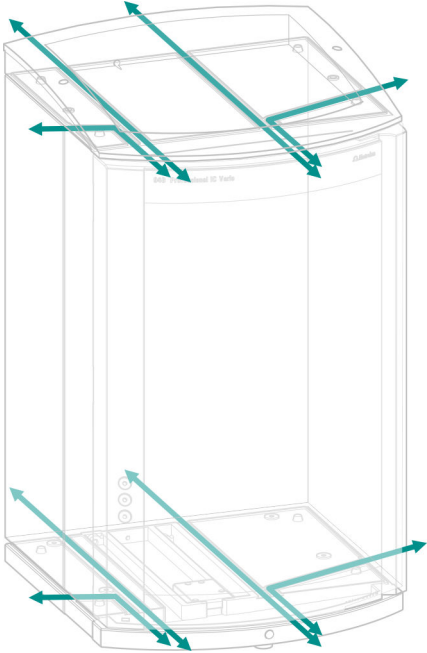

Figure 5 Ducts for capillaries
- Ducts between the instrument and the base tray as well as between the instrument and the bottle holder (see figure 5, page 12)